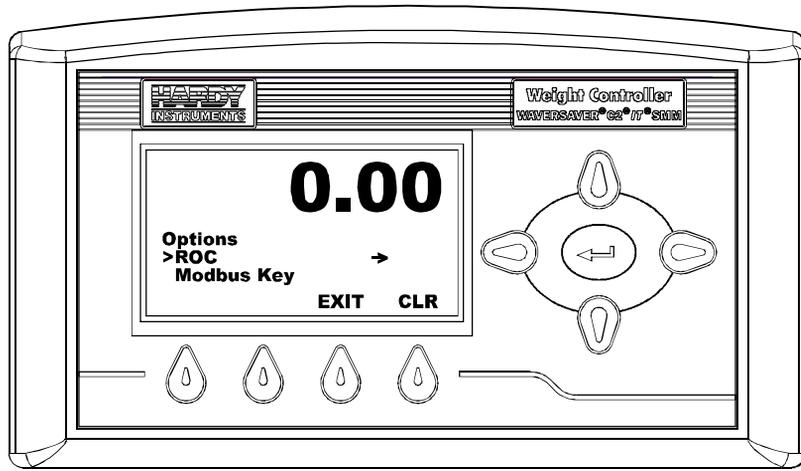

FIG. 139 OPTIONS MENU/SELECTING ROC
Step 6. Press the up or down arrow buttons until the cursor is in front of Rate of Change. (See Fig. 139)